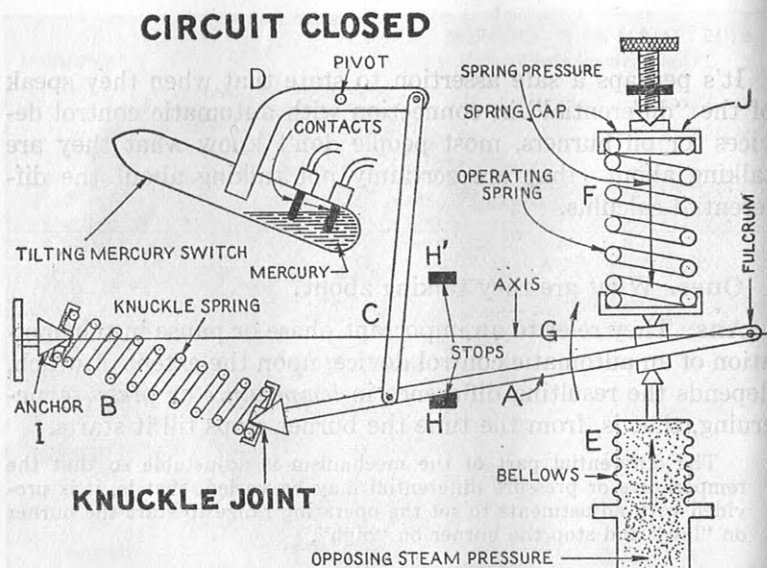

Fig. 1—Elementary diagram of differential mechanism for operating a tilting mercury switch showing essential elements; switch in closed position.
**Ans.** In the elementary diagram fig. 1, it consists of a link A, pivoted at one end and engaging a spring B, at the other end, forming the knuckle joint. A connecting link C, is pivoted to the switch link D. A bellows E, and operating spring F, provide two opposing forces for the operation of the switch.
It should be noted that the extent of movement between the stops H and H', (fig. 1) is exaggerated to emphasize the basic principle of the knuckle joint.
**Ques.** What is missing in fig. 1?
**Ans.** Means must be introduced to change the tension of the knuckle spring **B** (fig. 1) in order to increase the opposing steam pressure necessary to swing the knuckle joint over to the other side of the dead center axis.